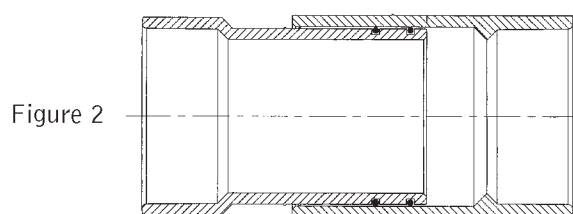

Figure 2
2. Piston type expansion joints\* (See Figure 2)